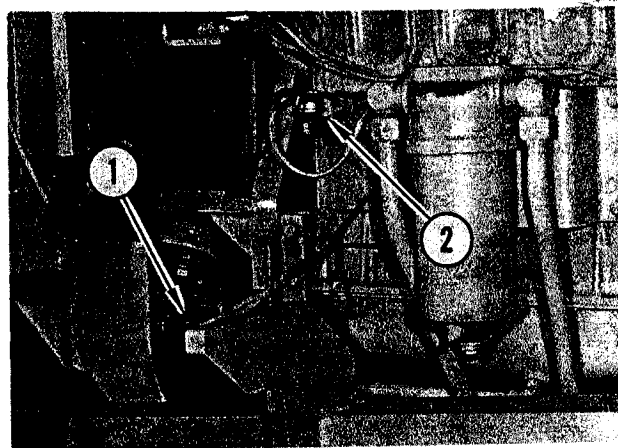

FIGURE 4. ELECTRICAL DISCONNECTS
Refer to Figure 4. Disconnect the three leads at voltage regulator terminals (1). Identify wires for easy identification at time of reassembly. Disconnect wires at pressure switch (2) and free from clamps securing it to side of engine. Mark wires for easy identification.